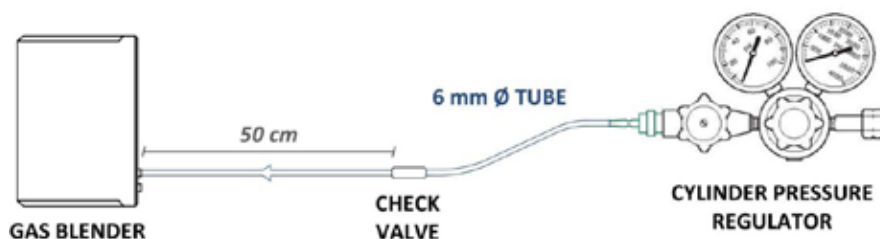

Fig 5
- 3. Gas Blender Inlets** - Check valves must be positioned at a distance of 50 cm from the Gas Blender inlets to secure a proper working of the instrument. For this purpose three 6mm diameter tubes 50 cm long are provided in the package. Take the 50 cm long tube and connect one end with the check valve. Then connect the other end to the instrument dedicated inlet positioned in the Gas Blender front panel (Fig. 5). This procedure must be repeated for each gas cylinder in use. *Note: Channel 1 is designed for the solvent gas.*